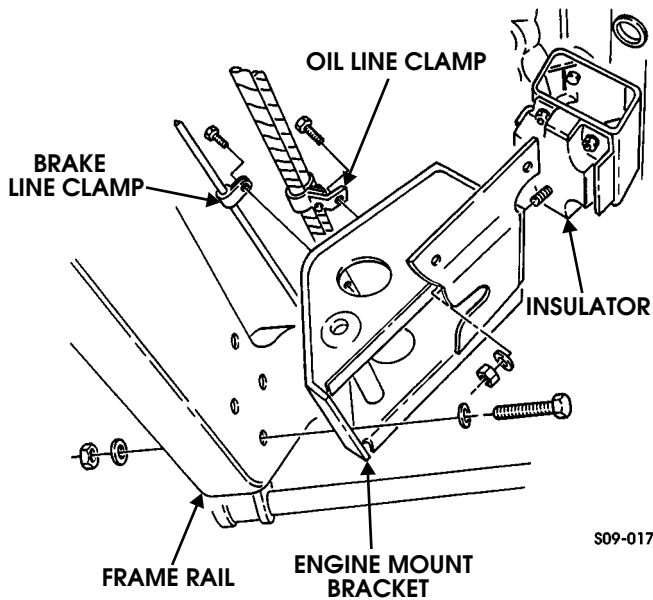

Figure 9-137: Left Engine Mount Bracket Replacement
1. Remove two bolts securing brake line and oil line clamps to engine mount bracket (Figure 9-137).
4. Remove four locknuts, washers, bolts, washers, and engine mount bracket from frame rail (Figure 9-137).
1. Install engine mount bracket on frame rail with four washers, bolts, washers, and locknuts. Tighten locknuts to 90 lb-ft (122 N•m) (Figure 9-137).
3. Secure engine mount bracket to insulator with two washers and locknuts. Tighten locknuts to 90 lb-ft (122 N•m) (Figure 9-137).